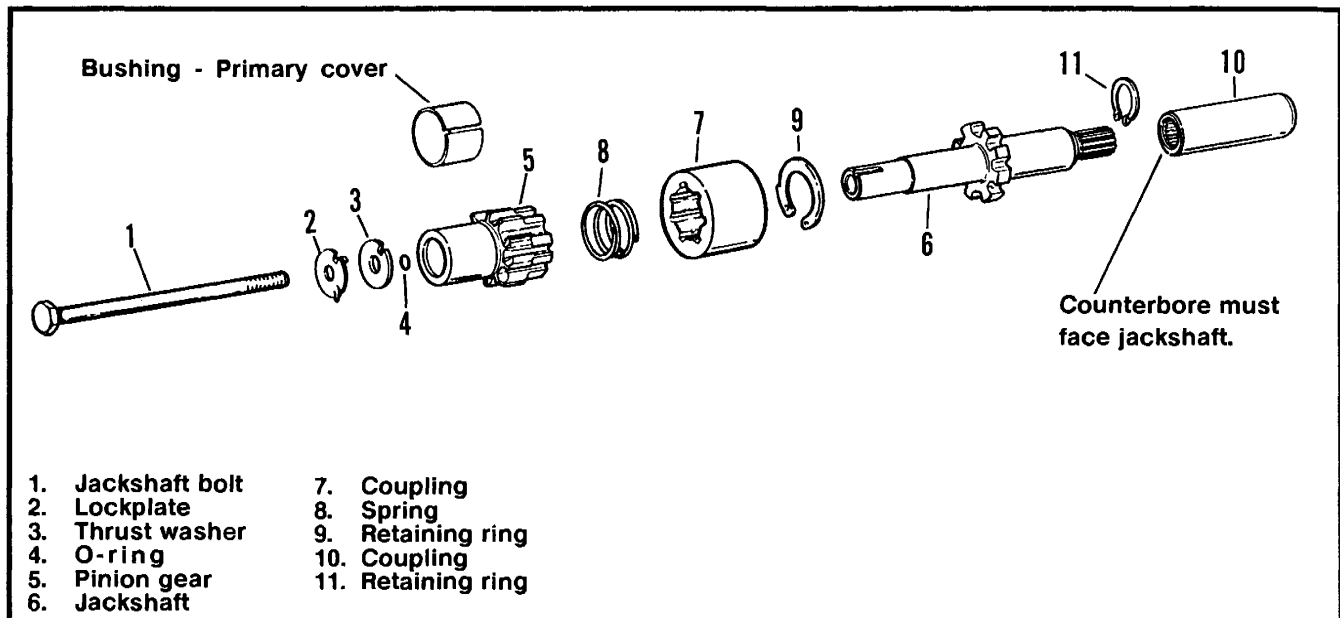

Figure 5-47. 1990 Jackshaft
6. See Figure 5-47 for 1990 models and follow ASSEMBLY/INSTALLATION procedure given for STARTER JACKSHAFT-1990.